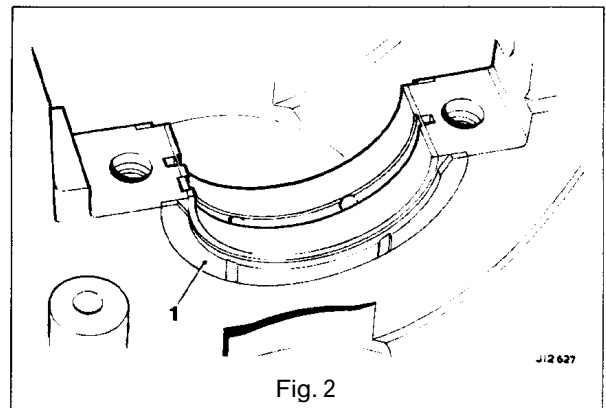

Fig. 2
- Lubricate and compress the rings using Service Tool 18G 55A (Fig. 2).